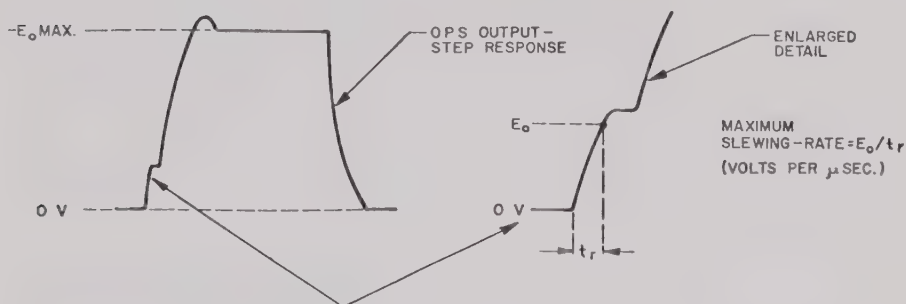

FIG. 5-6 OUTPUT WAVEFORM FOR SLEWING RATE MEASUREMENTS.
- 2) To measure the MAXIMUM SLEWING RATE, *decrease* the front panel VOLTAGE control setting and *increase* the gain of the square-wave generator at the input (E_i) until a *distinct break point* in the up-slope of the output waveform becomes visible. The slope from "0V" to this break point is the fastest rate of change of which the OPS under test is capable. Make certain that this is true, by slightly increasing the gain of the square-wave generator. The slope (E_o/t_r) should not change. (Refer to FIG. 5-6).